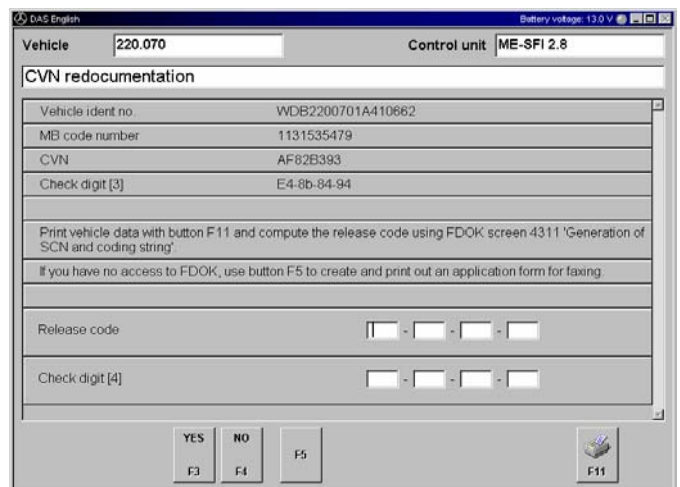

Figure 8
9. The CVN and Check Digit [3] are displayed on the SDS Screen. Press 'F11' to print out the CVN and Check Digit [3]. (Figure 8)